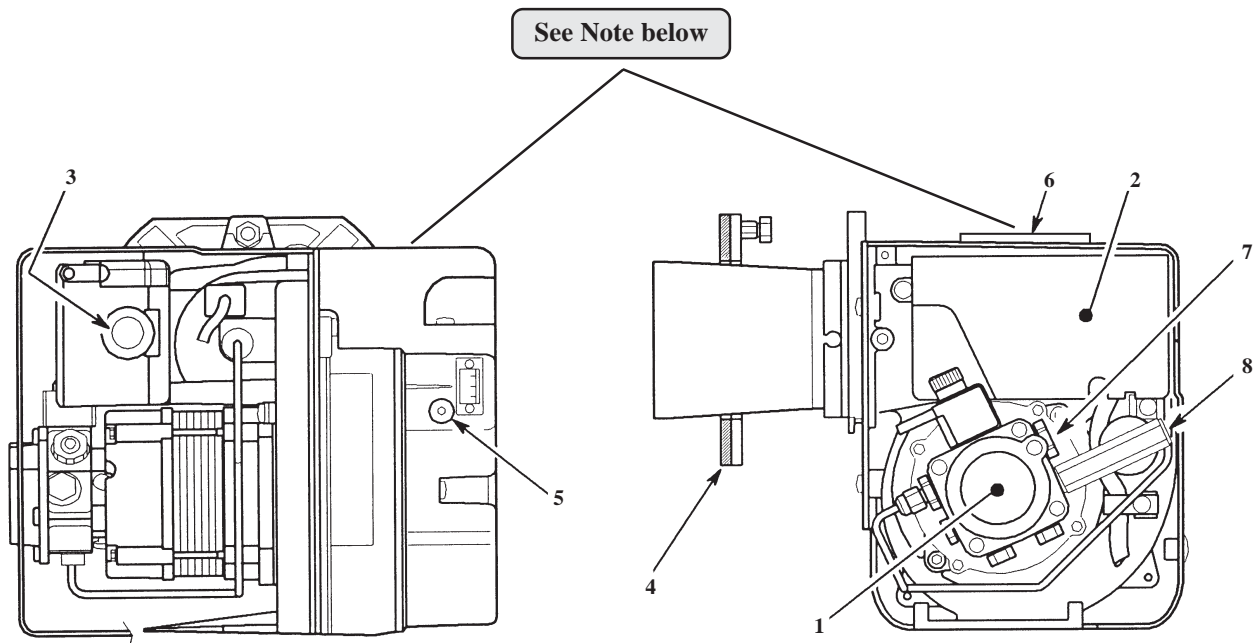

Fig. 16 - RDB burner components
- 4 Connect a combined vent manifold and pressure gauge to the pressure gauge connection port on the oil pump. See Fig. 16. Open the vent screw on your vent manifold to vent the supply while the pump is running.
- 7 With the burner alight, check the fuel pressure. Refer to the Technical Information, section 2.2 or 2.3. Adjust the pressure if necessary - see Fig. 16.
- 12 Check the smoke number, if satisfactory check the CO₂. Use the hexagonal key supplied to adjust the burner air damper (see Fig. 16) as required. Turning the screw clockwise opens the damper and reduces CO₂ level, turning the screw anticlockwise closes the damper and increases CO₂ level.